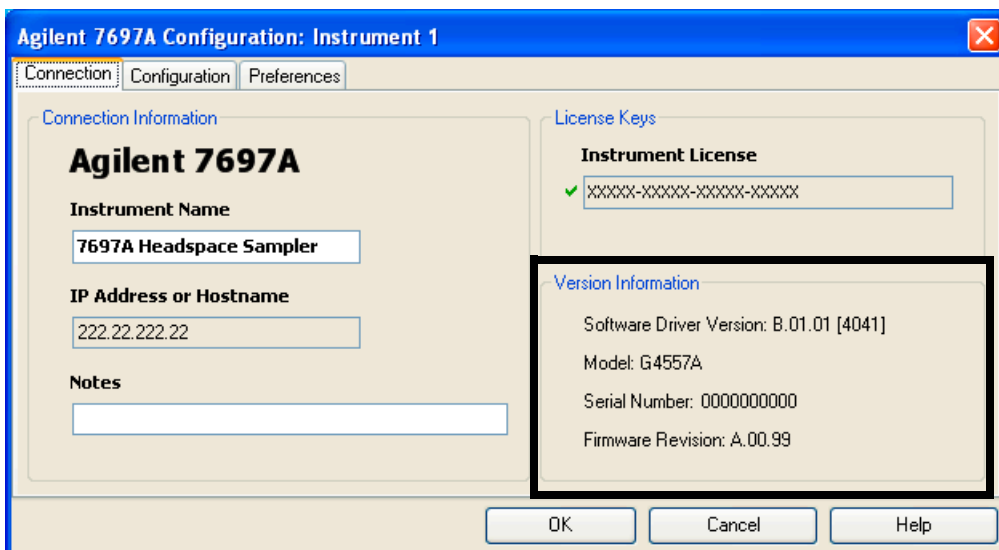

**Figure 8** Setting HS connection information
- 2 Select the **Connection** tab (Figure 8) to access instrument connection information, license keys, and system version information.